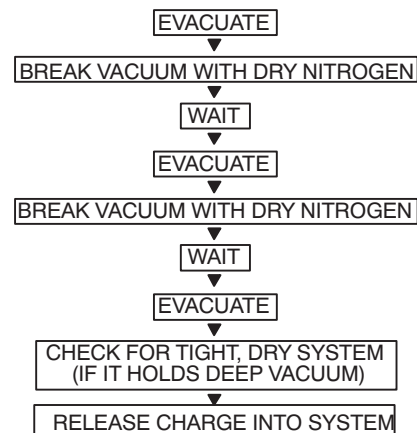

Fig. 26 —Triple Evacuation Method
The triple evacuation method should be used when vacuum pump is not capable of pumping down to 500 microns and system does not contain any liquid water. Refer to Fig. 26 and proceed as follows:
5. Repeat this procedure as indicated in Fig. 26. System is now free of any contaminants and water vapor.